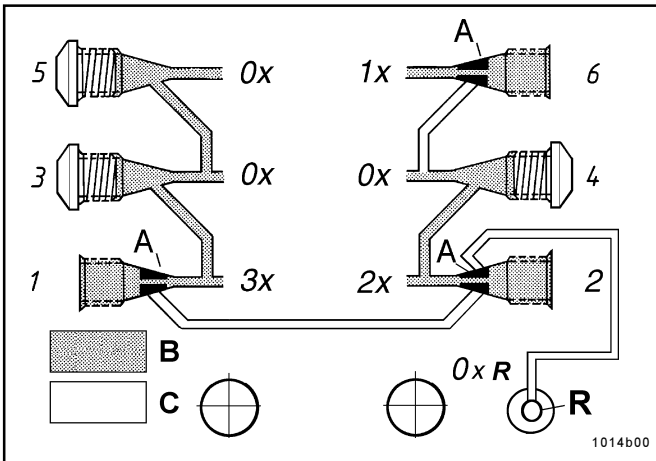

Fig. 1 - Single, double and triple lubricant output;SSV mounted on the back
- Lubricant from a plugged outlet is redirected to the next outlet on the same side of the SSV divider block in descending numerical order (see Fig. 1).
- For instance, plugging outlets 5 and 3 will triple the amount of lubricant to outlet 1. The connecting channel to outlet 2 is closed by means of the check valve's clamping ring (A).
* Install a closure plug in each outlet borehole which is not required, see Fig. 1 or 4.
Important: If **outlet 2** is connected to a **lube point**, **outlet 1 must not be closed**, see Fig. 1.